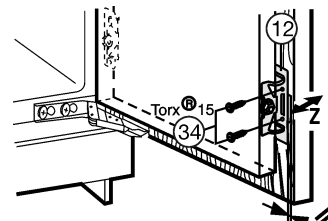

Fig. 22
- ▶ Screw the appliance door to the unit door with screws *Fig. 22 (34)* passed through the mounting brackets *Fig. 22 (12)*.